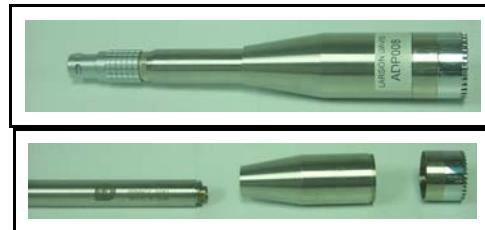

FIGURE 5-34 ADP008 being installed on PRM902
Step 2 Thread the ADP008 onto the preamplifier and then thread the 2575 microphone on the preamplifier (FIGURE 5-34).